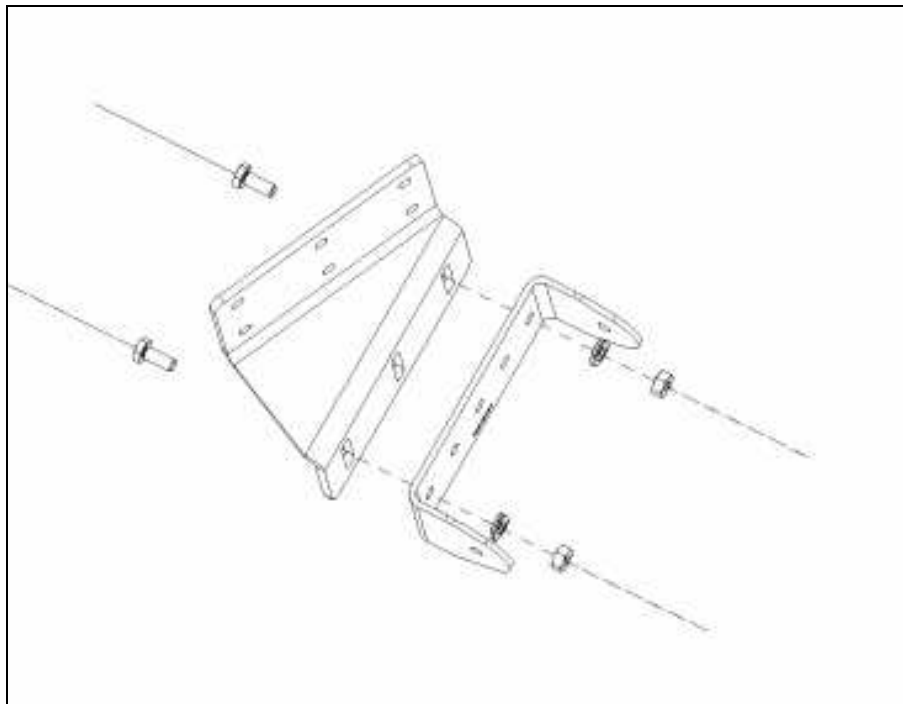

Figure 2. Display bracket assembly
2. Using post bracket as template, mark (3) holes on cab post using permanent marker or scribe.
4. Attach post bracket to cab post with (3) 1/4 x 3/4 in. self-tapping screws.
5. Attach post bracket to U-bracket using provided 1/4 in. cap screws, lock washers and hex nuts as shown in Figure 2.